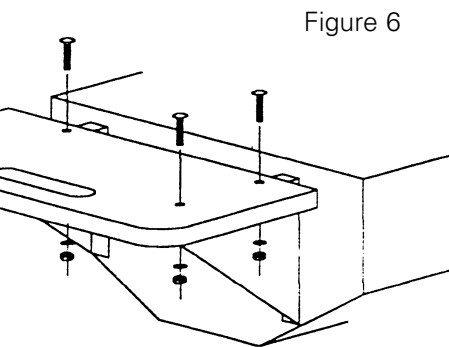

Figure 6
6. Refer to Figure 6. Select the two Shelves (part 18), and using four bolts and washers on each, attach them to the Shelf Mounts as shown. When all bolts are started, tighten Mount-to-bottom bolts and then Mount-to-shelf bolts securely.